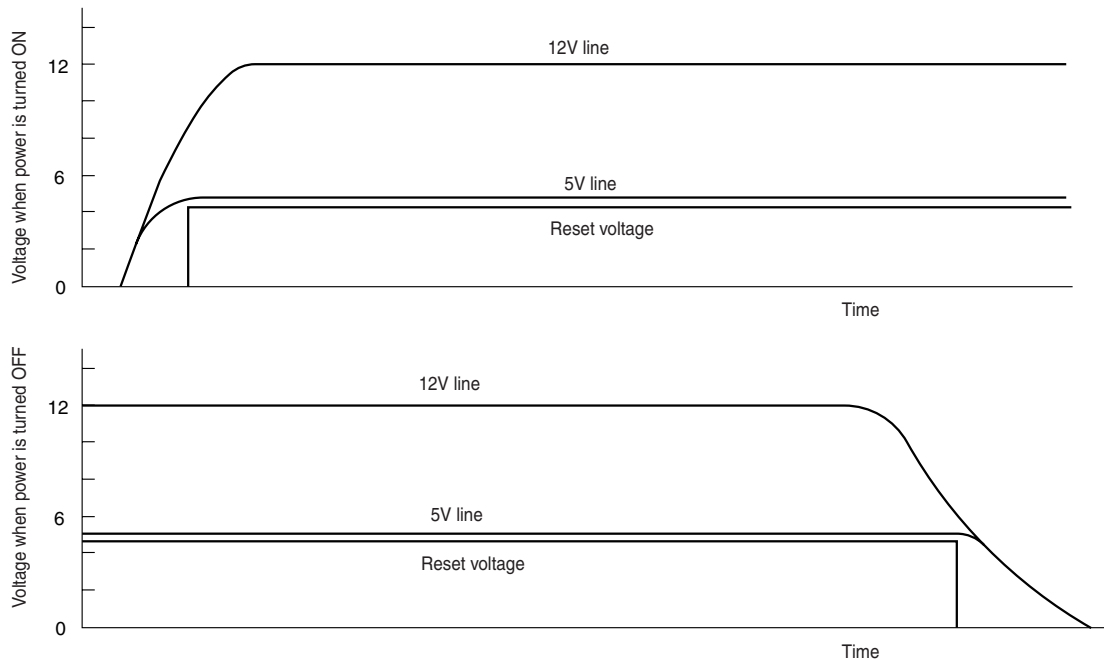

Fig. 9-2
- Fig 9-1 shows reset circuit, and Fig. 9-2 shows waveforms at each point when power is turned on/off.